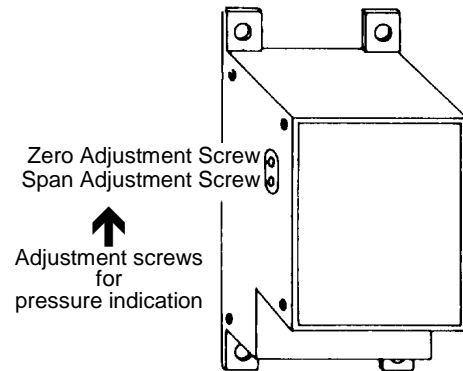

Figure 5.3
3. If the pressure reading indicated falls outside this range adjust with the zero adjustment screw shown in Fig. 5.3 until the pressure indicated comes into the range.
5. If the value indicated falls outside the range, adjust with the span (gain) adjustment screw shown in Fig. 5.3 until the correct reading is obtained.